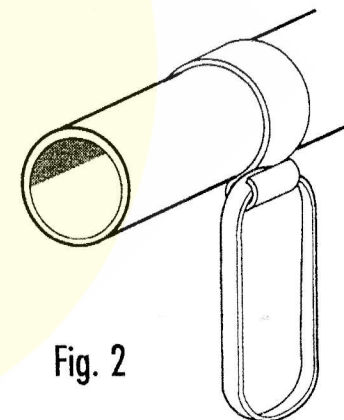

Fig. 2
- Fig. 2 - Thread the bottom of the new rubber back through the centre of the 'D' ring.